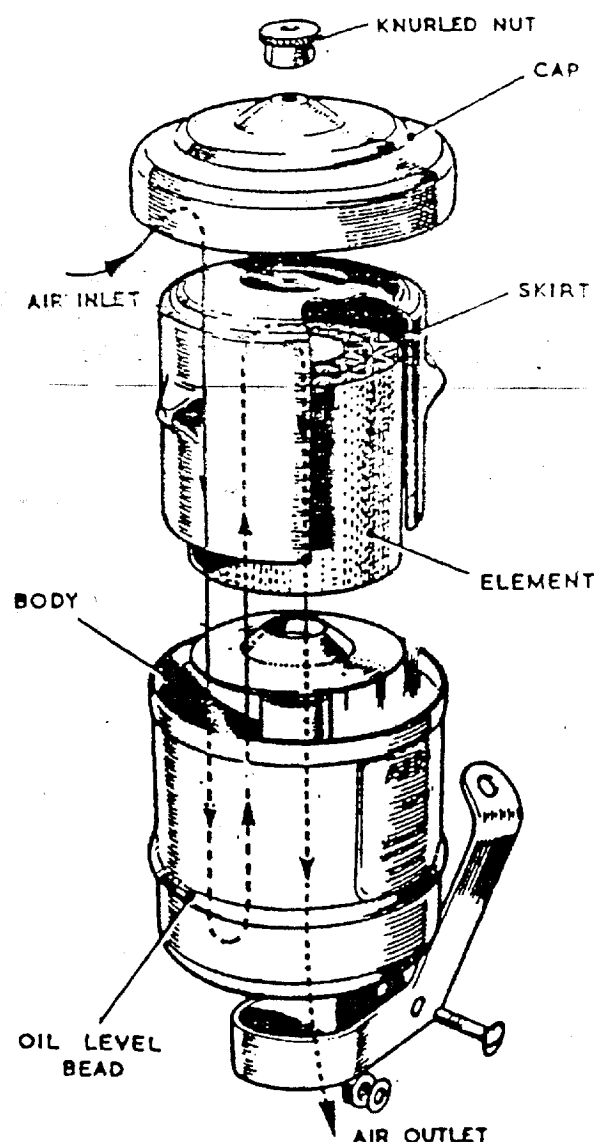

Fig. 8. The Air Cleaner.
1.4.2. The Air Cleaner. Fig.8.
The air cleaner is mounted on the other end of the induction pipe. It comprises a bowl, an element and support, an element locating skirt and a cap. The assembly is held in position by means of a long stud screwed into a crosspiece in the end of the induction pipe and a knurled nut on top of the cap. The purpose of the cleaner is to prevent the ingress of dust into the engine cylinder. The path taken by the air is shown in Fig.8 much of the dust is lodged in the oil as the downward current of air impinges on the surface of the oil and fine particles are trapped in the filter. The bowl assembly sits on a cork washer and it should be examined frequently to ensure that it is seated on the washer correctly and that the joint is not leaking.
3.5. To clean the air cleaner. (see Fig. 8).